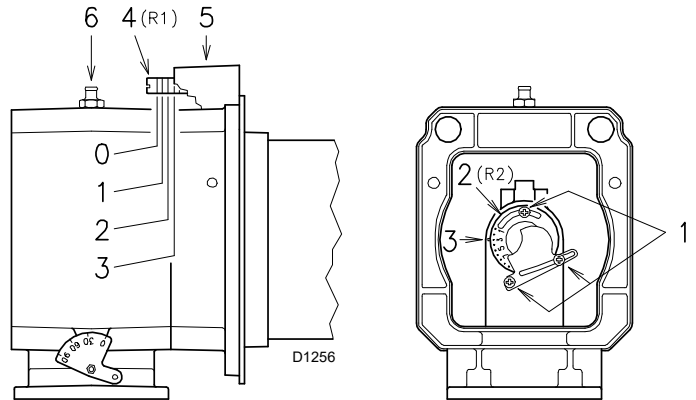

Fig. 16
Air adjustment (Fig. 16)
- Turn the screw 4)(Fig. 16) until the notch found lines up with the front surface 5) of the flange.
Gas adjustment (Fig. 16)
- Loosen the 3 screws 1)(Fig. 16) and rotate the ring nut 2) until the notch you have found corresponds with the indicator 3).
If gas pressure allows it, NOx reduction can be obtained by closing ring nut 2)(Fig. 16).
Continuing the example above, you understand that for RS 68/M BLU burner having a power of 500 kW, pressure must be 5.0 at outlet 6)(Fig. 16).